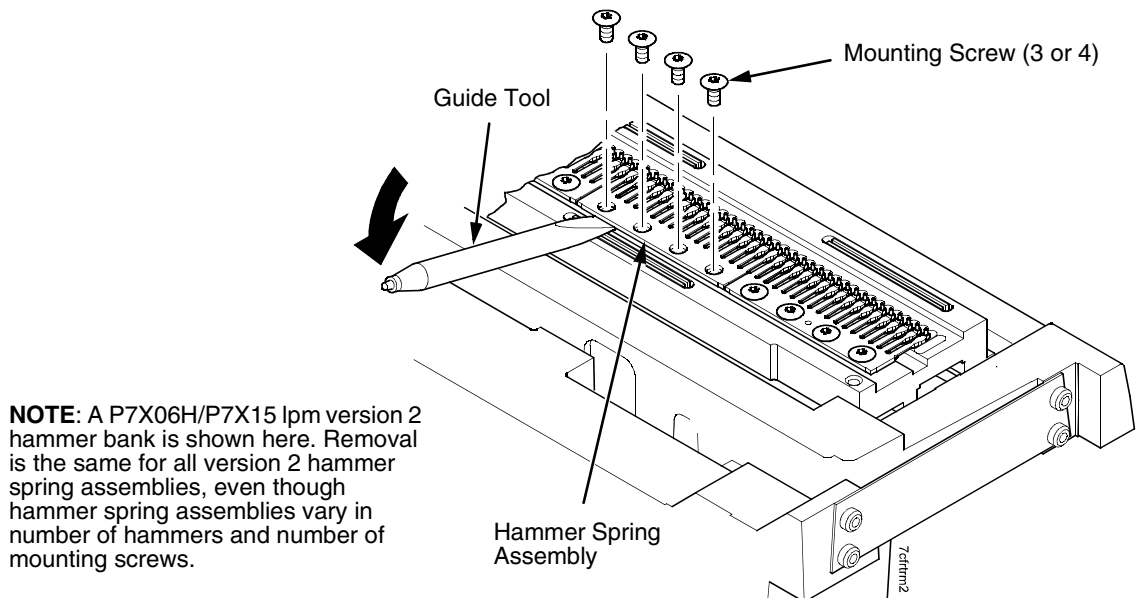

Figure 27. Version 2 Hammer Spring Assembly, Removal
5. Remove the screws securing the old hammer spring. There will be three or four mounting screws, depending on the printer model. (Figure 27.)